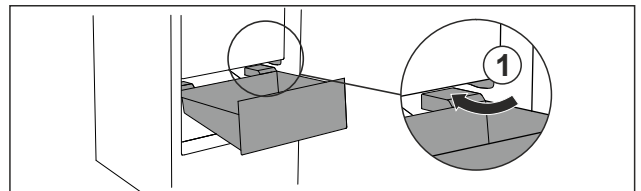

Fig. 74
- ▶ Guide drawer in at an angle around the stoppers Fig. 74 (1).